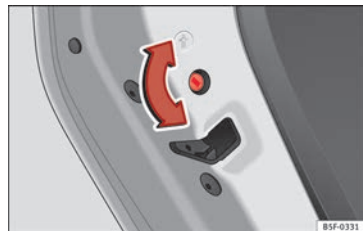

Fig. 129 Childproof lock on the left hand side door.
- With the door open, rotate the groove in the door using the ignition key, clockwise for the left hand side doors » Fig. 129 and anti-clockwise for the right hand side doors.
- With the door open, rotate the groove in the door using the ignition key, anti-clockwise for the left hand side doors » Fig. 129 and clockwise for the right hand side doors.